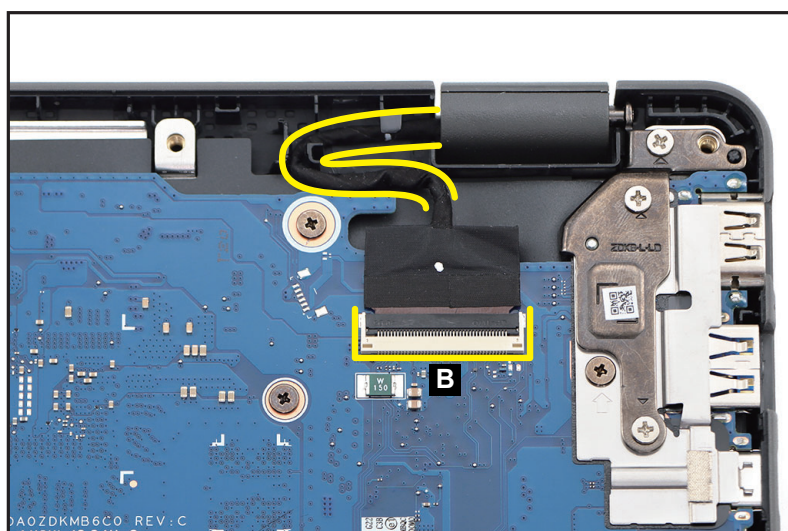

Figure 3-19. LCD Module Removal
2. Disconnect another LCD cable from the mainboard connector (B). Then unrout the cable from the cable guides as shown in Figure 3-19.